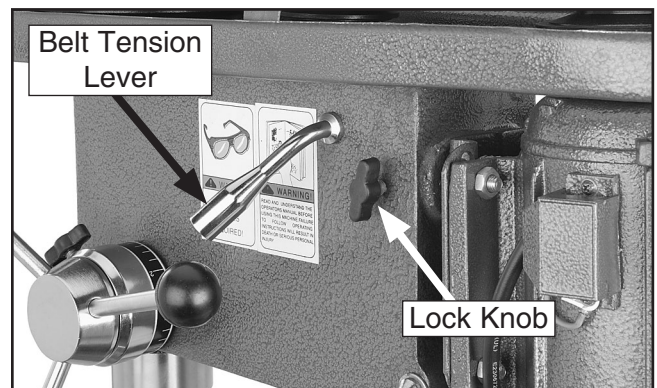

Figure 29. Loosening lock knob.
2. Loosen the lock knobs on each side of the headstock (**Figure 29**), and use the belt tension lever to take tension off of the V-belts.